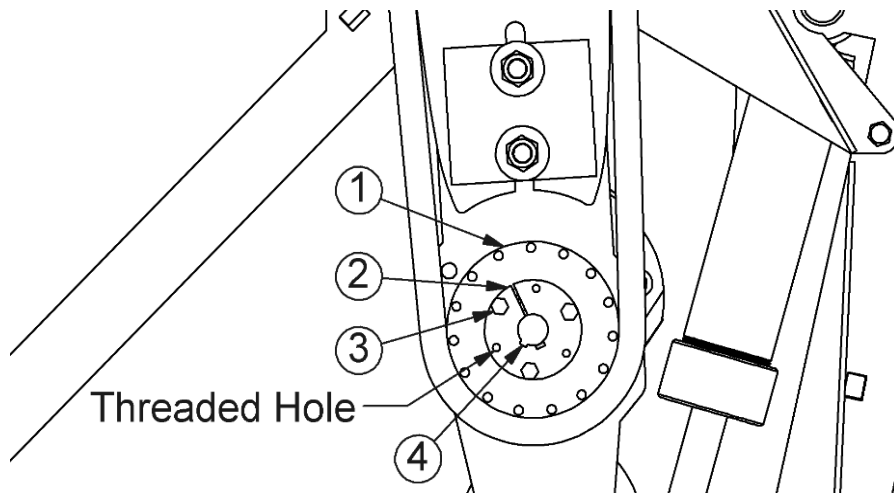

Fig. 7
The chain saw sprocket is connected to the shaft with a tapered bushing. To remove the sprocket remove the Cap Screws (Fig. 7, Item 3) and screw them into the Threaded Holes, tighten up to 36 inch pounds to push the Sprocket (Fig. 7, Item 1) off the bushing. You may need to tap the Sprocket towards the motor with a hammer to assist in getting the Sprocket loose from the Bushing (Fig. 7 Item 2). Lightly drive a flat blade screwdriver into the slot of the Bushing.
Pry between the Bushing and the Sprocket to get the Bushing off the shaft. Watch that the Drive Key (Fig. 7, item 4) does not get lost.
To install the Sprocket, slide the Sprocket (Fig. 7, item 1) over the motor shaft, slide the Bushing (Fig. 7, item 2) onto the shaft with the Drive Key (Fig. 7, item 4) aligned. Position the sprocket groove offset towards the motor about the width of the bar groove with the Bushing just contacting the Sprocket. Insert the Cap Screws (Fig. 7, item 3) through the large hole in the Bushing and screw them into the threaded holes of the Sprocket. Torque the Cap Screws (Fig. 7, item 3) to 36 inch pounds. Check to make sure the sprocket groove is aligned with the bar groove. If the alignment is not correct, remove and replace the sprocket and bushing by adjusting the position before tightening the cap screws.